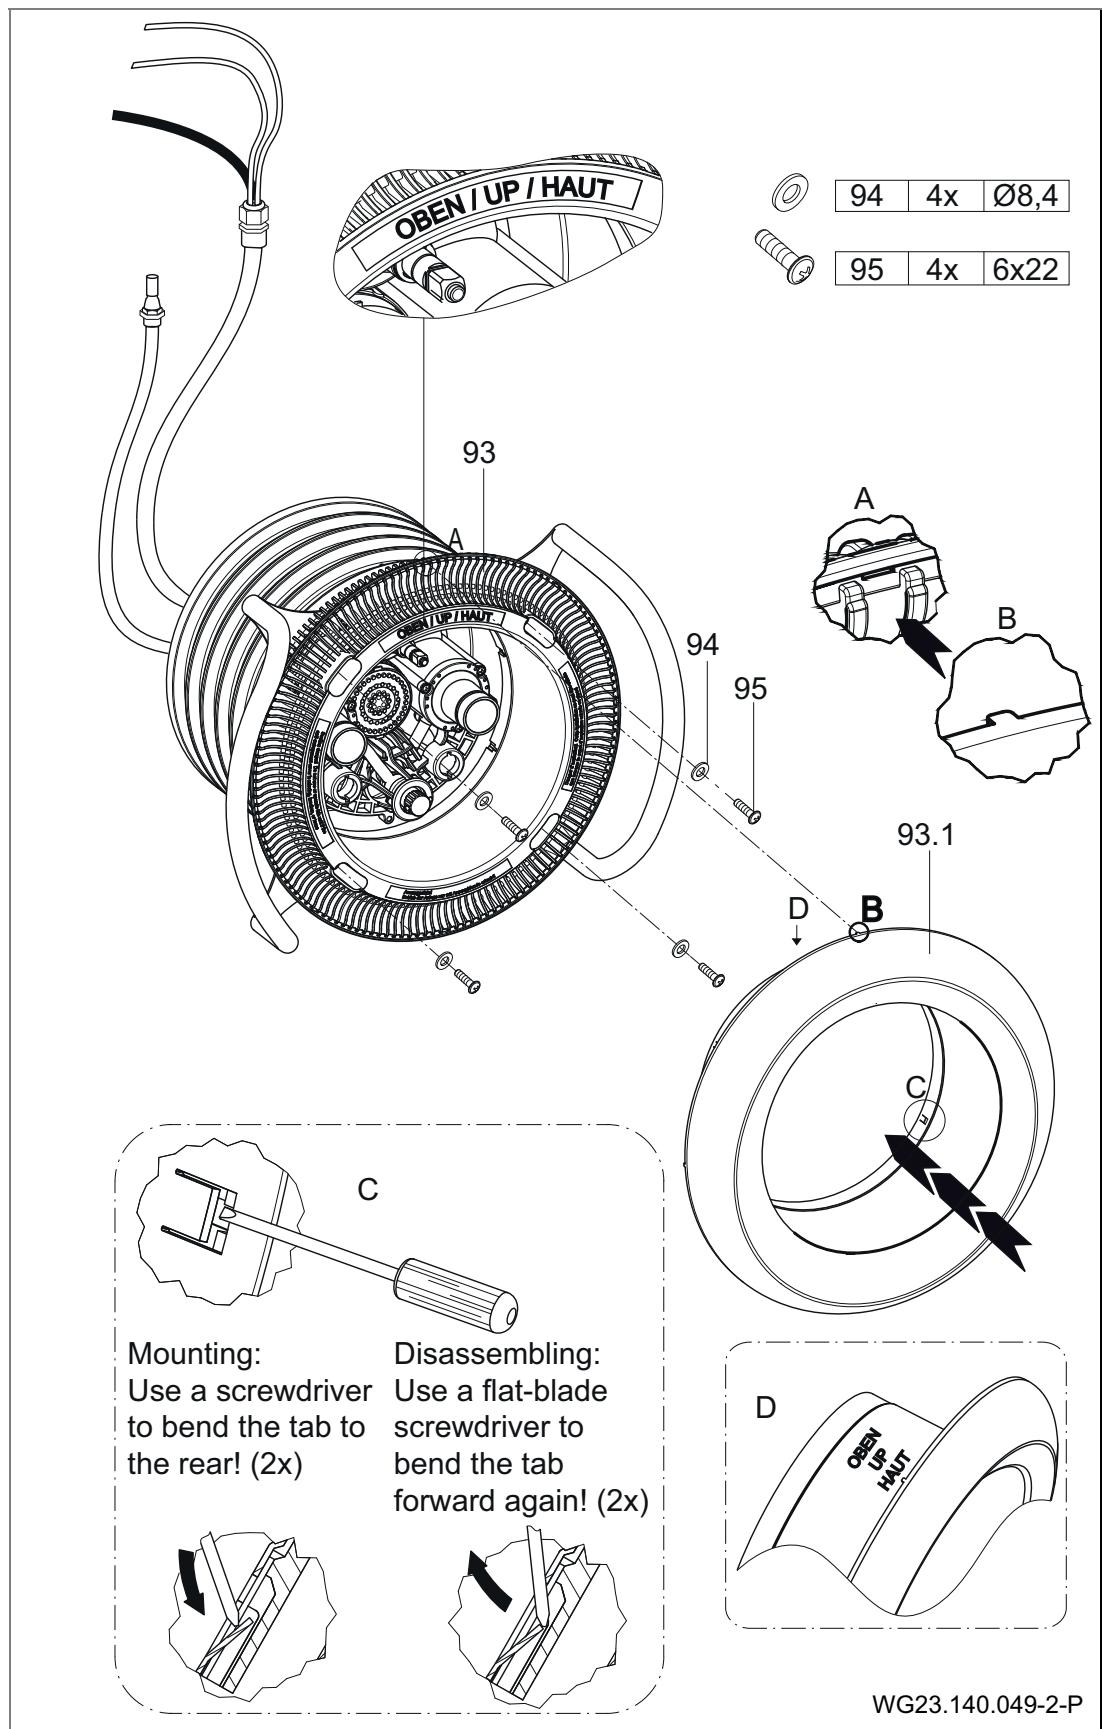
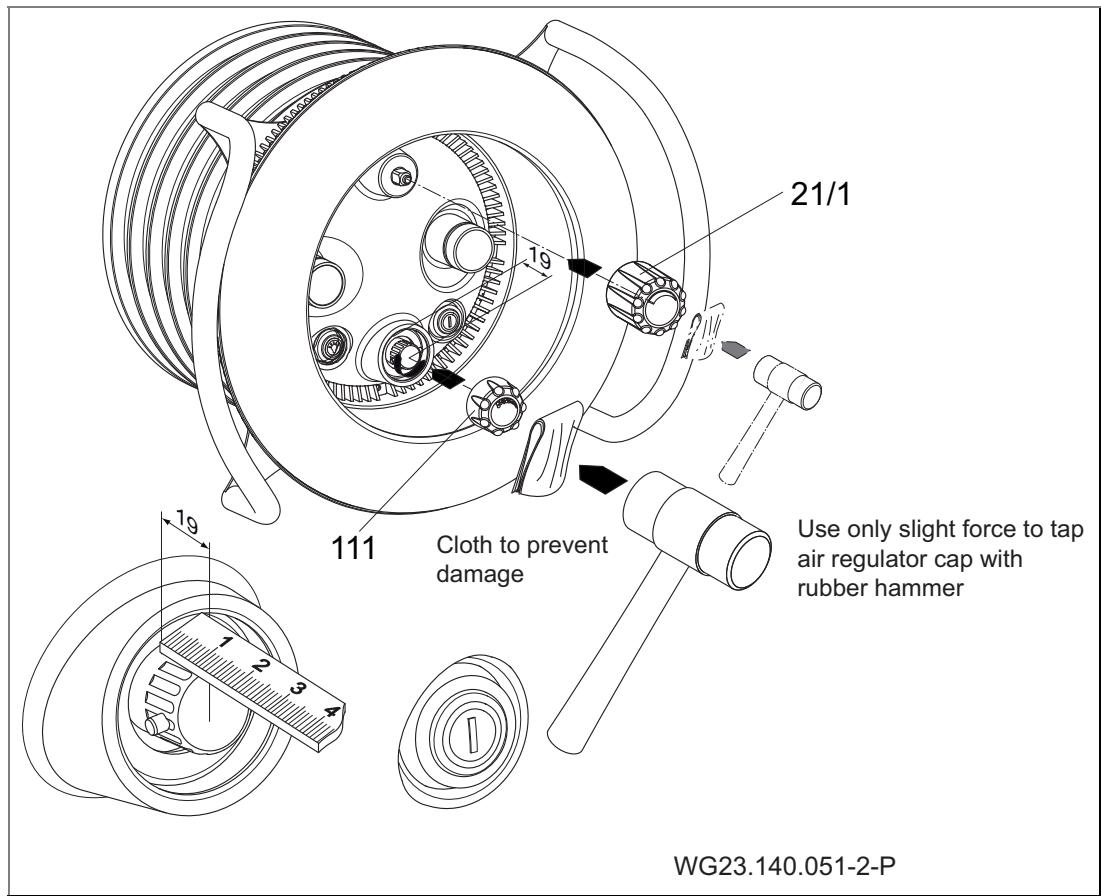

Fig. 17
Fig. 19
8. Place the suction panel (93) on the support ring (28) and fasten with four plain washers (94) and four tapping screws (95). (Fig. 17)
screwdriver to bend the two offset tabs towards the back. (Fig. 17)
12. Primavera: Mount the cap for the volume (111) and air regulator (21/1) by means of a rubber mallet and a protective cloth. (Fig. 19)
1. Remove the caps for the volume regulator (111) and air regulator (21/1). See "Fig. 19"
2. Loosen the tapping screws (112) and remove the light cover (110).
3. Bend the two offset tabs on the stainless steel cover back towards the front and remove the stainless steel cover. See "Fig. 17"
4. Loosen the tapping screws (95) and remove the suction panel (93) and hand rail (70).
5. If necessary, loosen the tapping screws (61). Remove the nozzle housing (102.1). When doing so, be aware of the internal air line (4) which is fastened to the main housing (1).
6. Loosen the screws (52). Remove the handrail (70), support ring (28) and support ring seal (27).